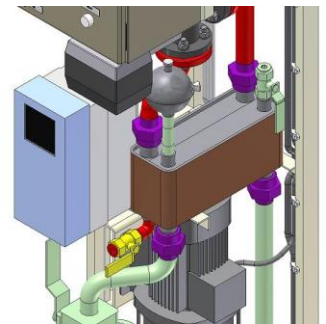

Figure 6.2-4
3. Remove the two M8 nuts from underneath the heat exchanger (marked violet in Figure 6.2-4).